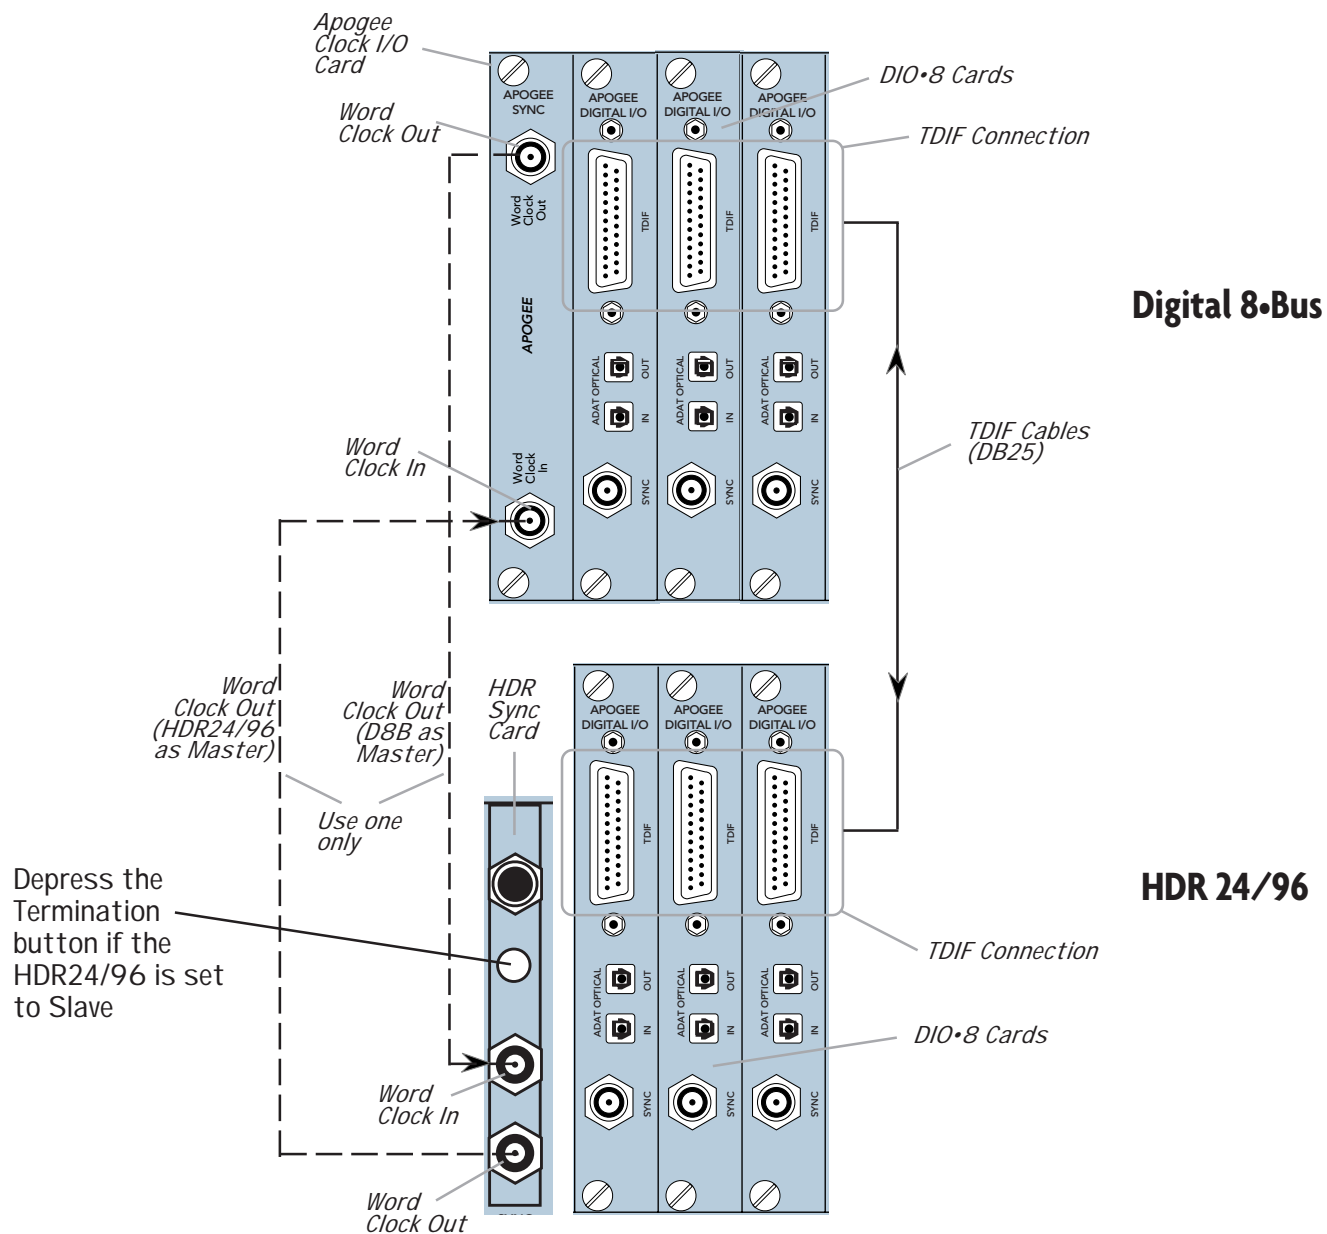

Figure 1
2. When TDIF is used, the D8B must have a Clock I/O card installed. To make the D8B the clock master, connect its Word Clock Out (not DIO•8 Sync out) to the HDR24/96 Word Clock In. To make the HDR24/96 the clock master, connect its Word Clock Out to the D8B Word Clock In. See *Figure 1*.
Note: Determining which unit in *Figure 1* provides the master clock depends on your application. For information on advanced applications, see the Applications Manual.